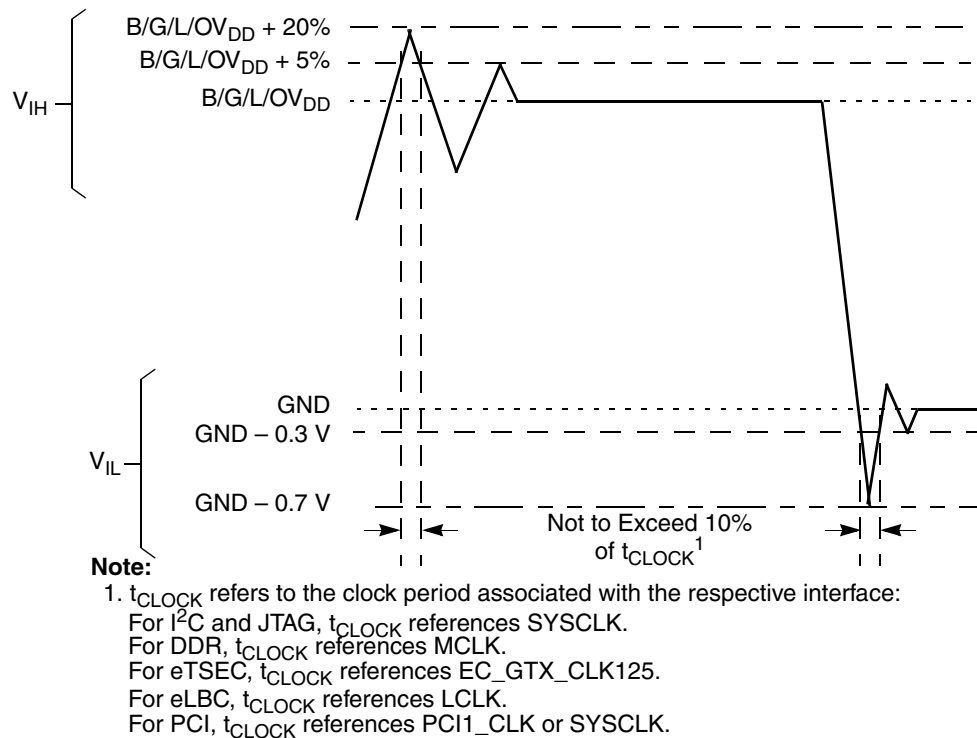

Figure 7. Overshoot/Undershoot Voltage for $G_{VDD}/O_{VDD}/L_{VDD}$
3. (M,L,O) V_{IN} and MV_{REF} may overshoot/undershoot to a voltage and for a maximum duration as shown in Figure 7.